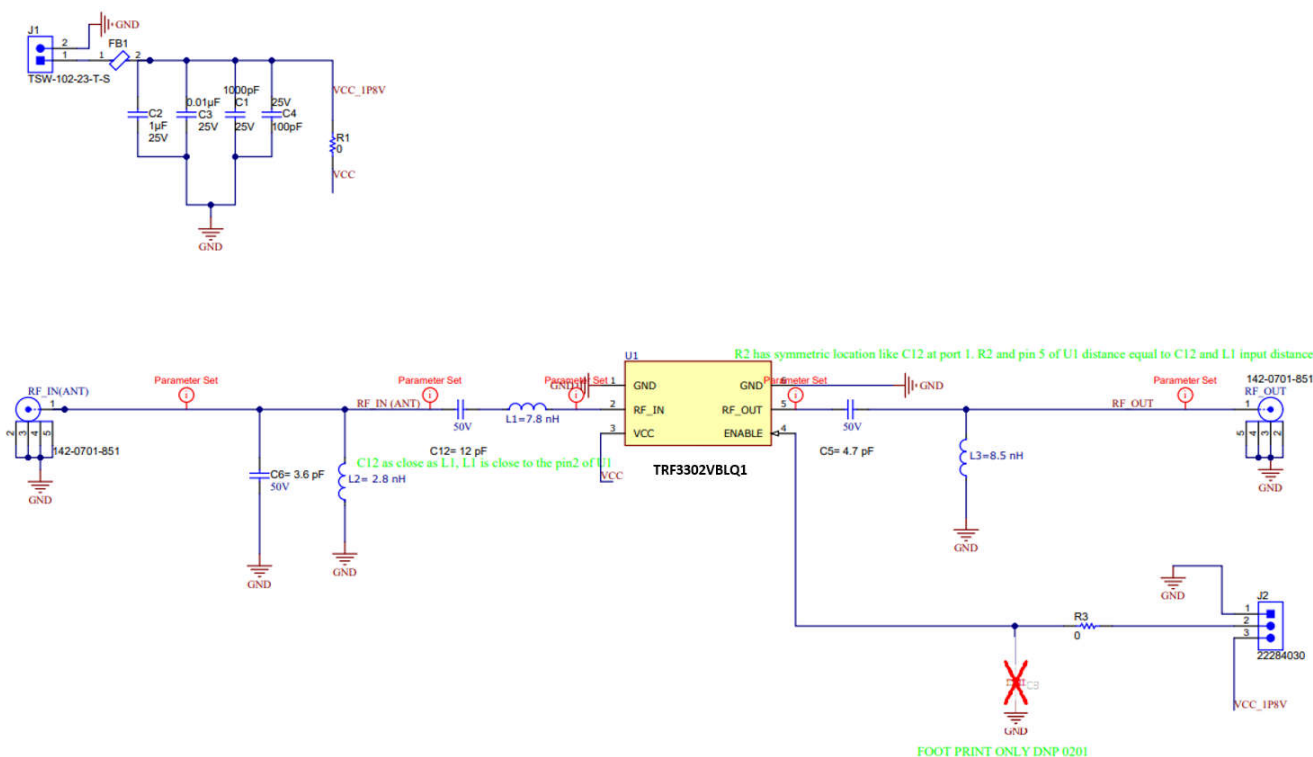

Figure 3-3. TRF3302Q1EVM Schematic for All GPS/GNSS Bands
4. Replace C6, C12, L1, and L2 with 3.6pF, 12pF, 7.8nH and 2.8nH to optimize performance across 1165MHz to 1630MHz (all GPS/GNSS bands) as shown in Figure 3-3. R2 has to be replaced with capacitor value 4.7pF and C5 has to be replaced with inductor value 8.5nH to achieve gain flatness and a slight improvement in output matching.